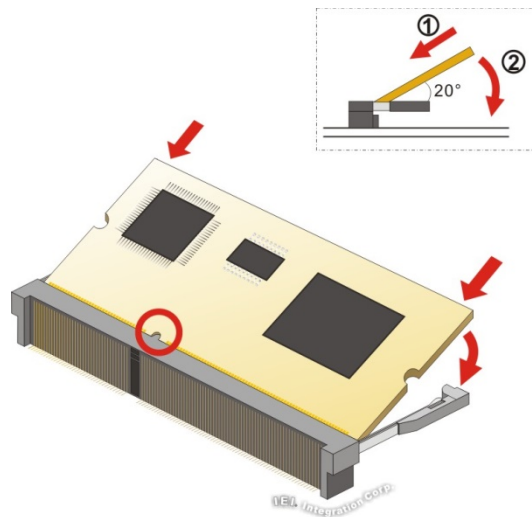

Figure 4-2: iRIS-2400 Module Installation
To install the iRIS-2400 module, please follow the steps below and refer to **Figure 4-2**.
Step 3: Insert the iRIS-2400 module. Push the module in at a 20° angle (Figure 4-2).
Step 4: Seat the iRIS-2400 module. Gently push downwards and the arms clip into place (Figure 4-2).